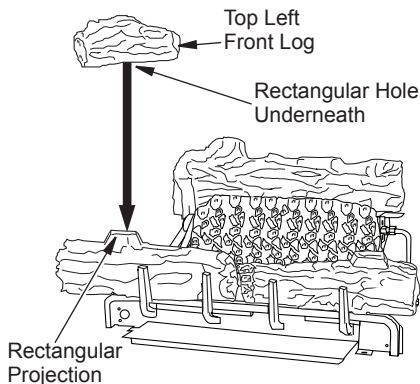

Figure 32 - Installing Top Left Front Log
- Place top left front log onto front left log. Match the rectangular projection on top of front left log with the rectangular hole on the bottom of the top left front log. The top left front log will rest on top of the front left log (see Figure 32).